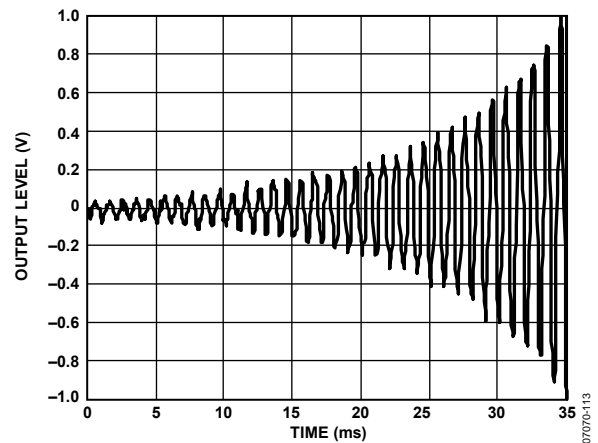
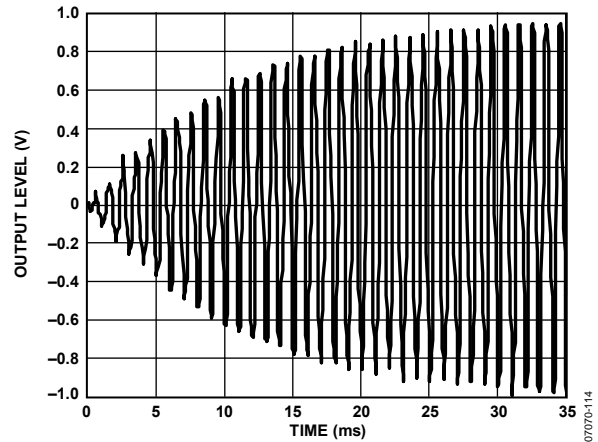
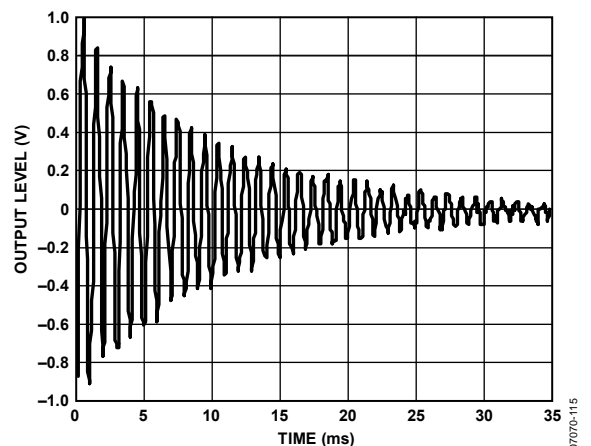

Figure 41. Slew RAM—Constant Decibels Update Increasing Ramp
Figure 42. Slew RAM—RC Update Increasing Ramp
Figure 43. Slew RAM—Constant Decibels and RC Updates Decreasing Ramp, Full Scale
An exponential update is accomplished by shifts and additions with a range from 6.1 ms to 1.27 sec (–60 dB relative to 0 dB full scale). When the ramp type is set to 01 (constant decibels), each step size is set to the current value in the slew data. When the ramp type bits are set to 10 (RC), the step size is equal to the difference between the values in the target RAM and the slew RAM (see Figure 41, Figure 42, and Figure 43).